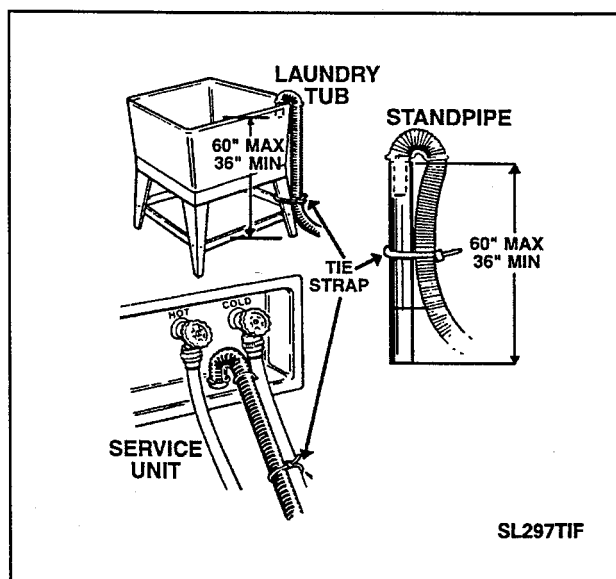

Figure 1-7
10. Secure the drain hose to the standpipe or drain facility with the cable strap provided. This will ensure the drain hose will not fall out of the drain facility (*Figure 1-7*).